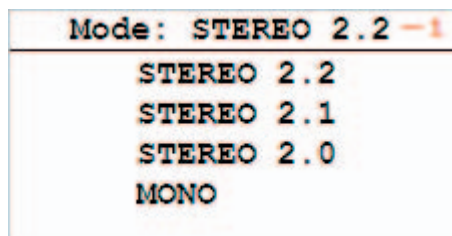

Fig. 1. Mode menu. 2.2 mode selection is displayed in the upper left corner (1).
This operating mode assumes a stereo system consisting of two main channels and two subwoofers. To select 2.2 mode from the main screen, click on the MENU button, and then select the MODE menu. In MODE menu, click on the STEREO 2.2 option. This will select 2.2 mode and will display it on top of the screen (1) Fig.1.